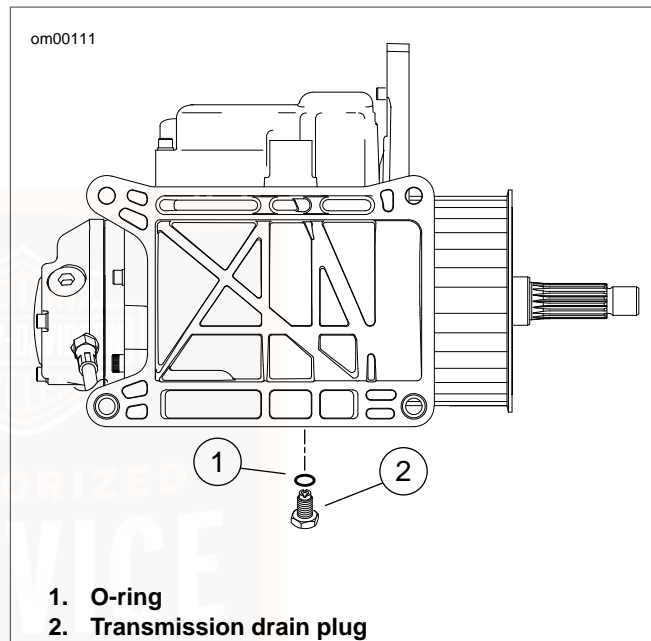

Figure 53. Transmission Drain Plug and O-ring
2. See Figure 53. Remove transmission drain plug and drain lubricant into a suitable container.